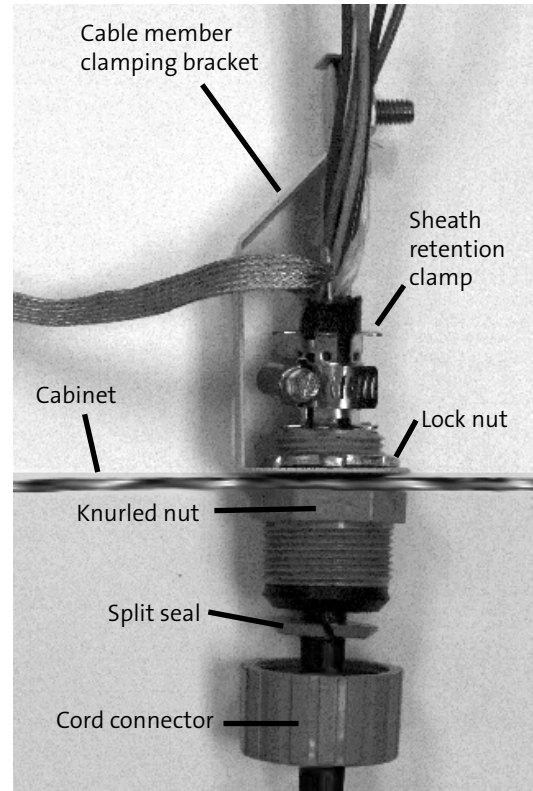

Figure 18
Step 6: Unscrew the large knurled nut from the cord connector, if it is attached, and slip the split seal around the exiting cable stub as near to the cord connector as possible. Position the tapered end of the seal toward the cord connector (Figure 18).